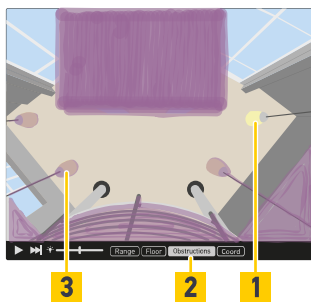

Fig. 85: Live view with partial marked obstructed object
- To see marked objects click the Obstructions button (Fig. 85 /2).
- To draw lines (Fig. 85 /3) for marking objects (Fig. 85 /1) click and hold mouse button in the live view.